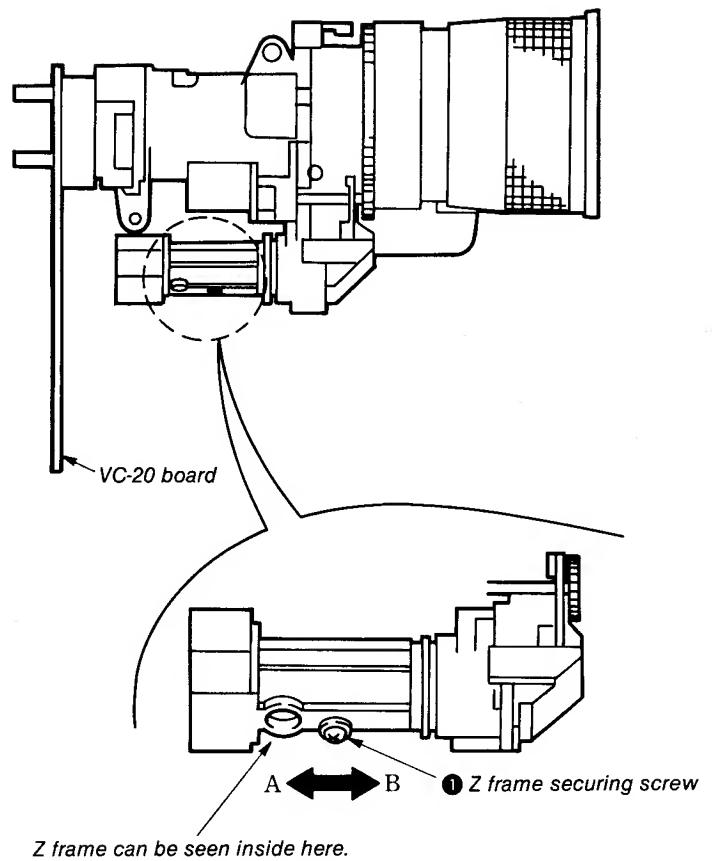

Fig. 7-45.
- 4) Loosen Z frame securing screw ❶. (Fig. 7-45)
- 6) Tighten Z frame securing screw ❶. (Fig. 7-45)